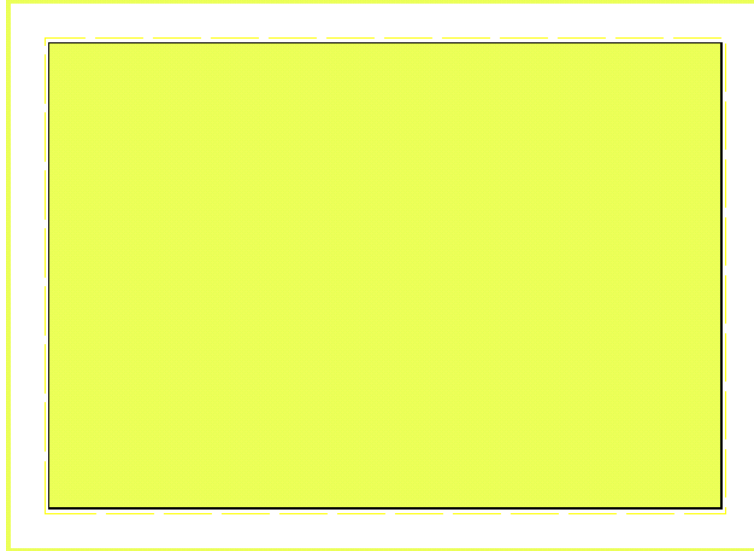

Figure 4-44
17. Select *Modify/Clear Selection* and then *Modify/Select Object*, click on the diagonal line and click the <Delete> key. See Figure 4-44.